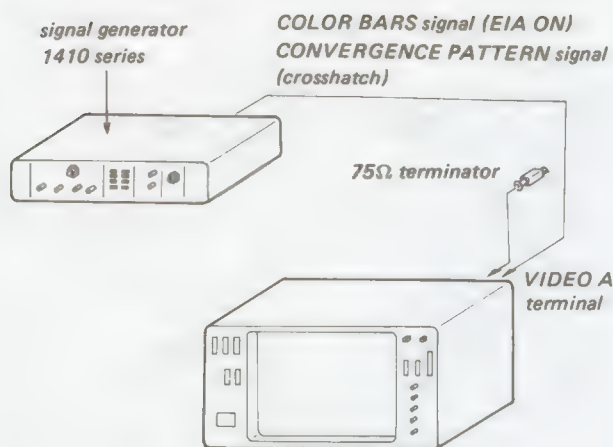

Fig. 5-110.
1. Complete the connections as shown in Fig. 5-110 and turn on the power of the BVM-1201.